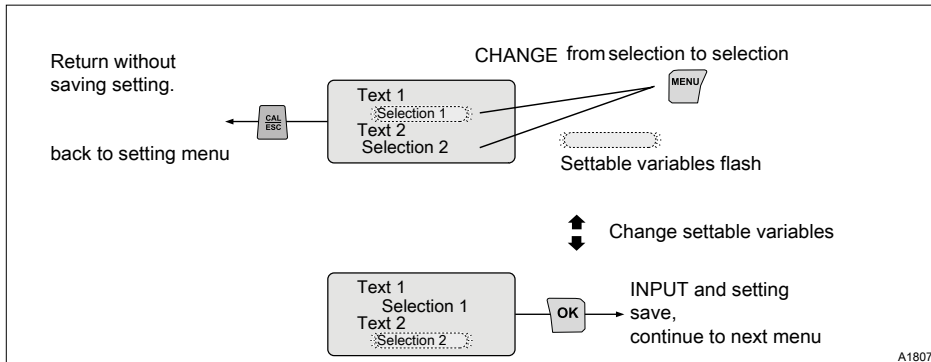

Fig. 12: Functions within the menu items
2. ➔ Pressing [*OK*] exits the menu points again and, at the same time, saves the set variables in the menu point, see Fig. 12.
1. ➤ You have reached a menu point: You can see words and figures, see Fig. 12